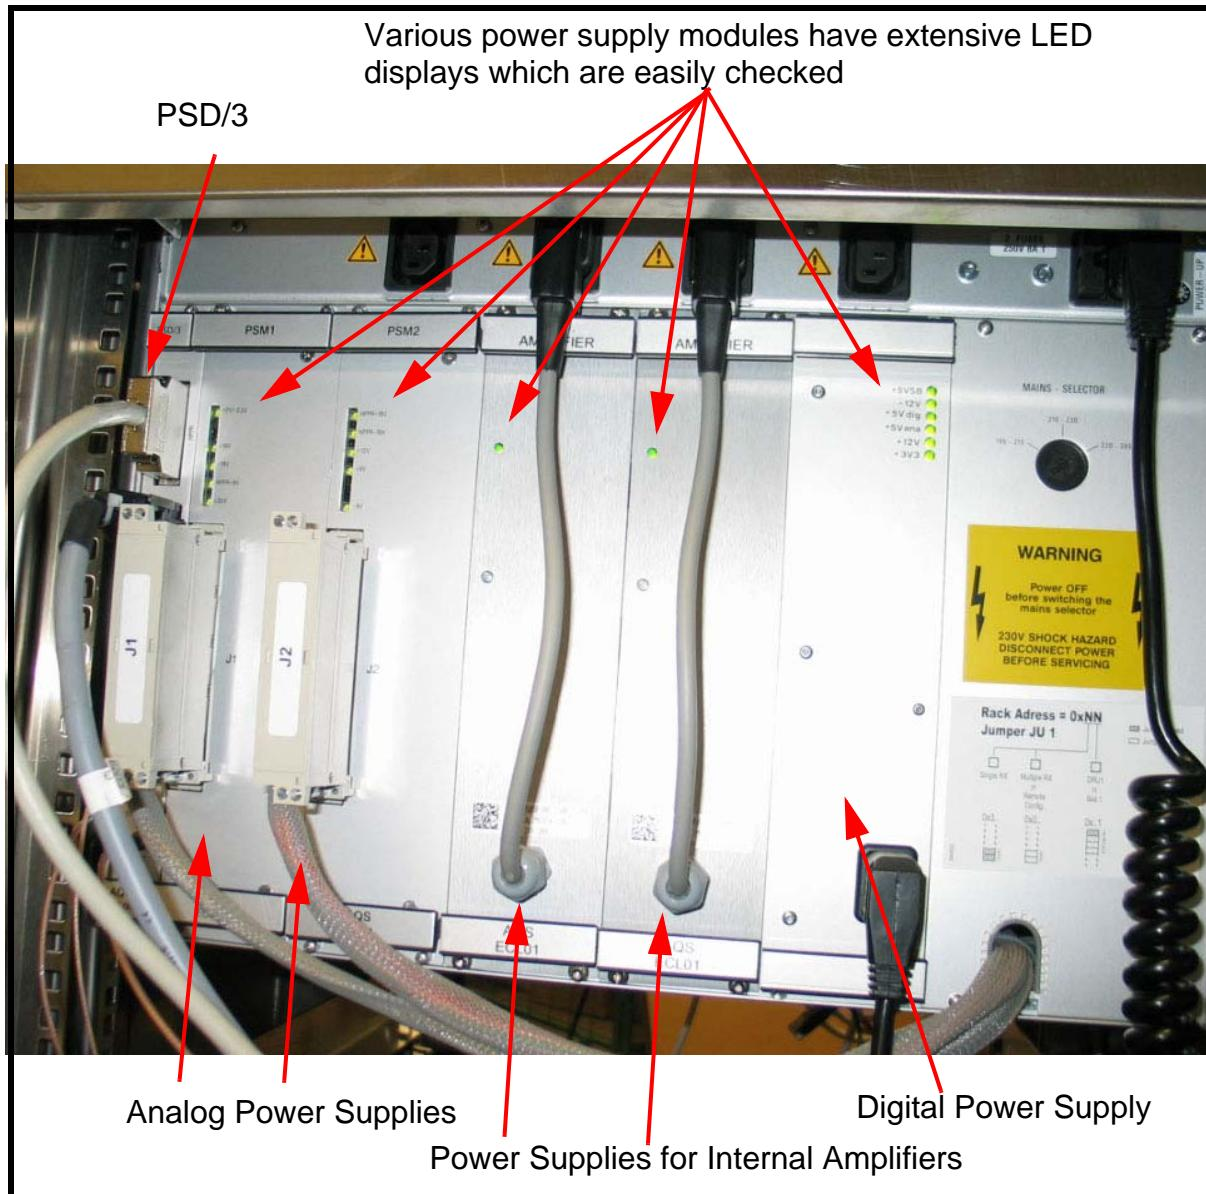

Figure 3.10. Rear View of AQS3
- If power LEDs on the various front panels are not lit then the LEDs on the power supplies at the rear of the AQS (see Figure 3.10) should also be checked.